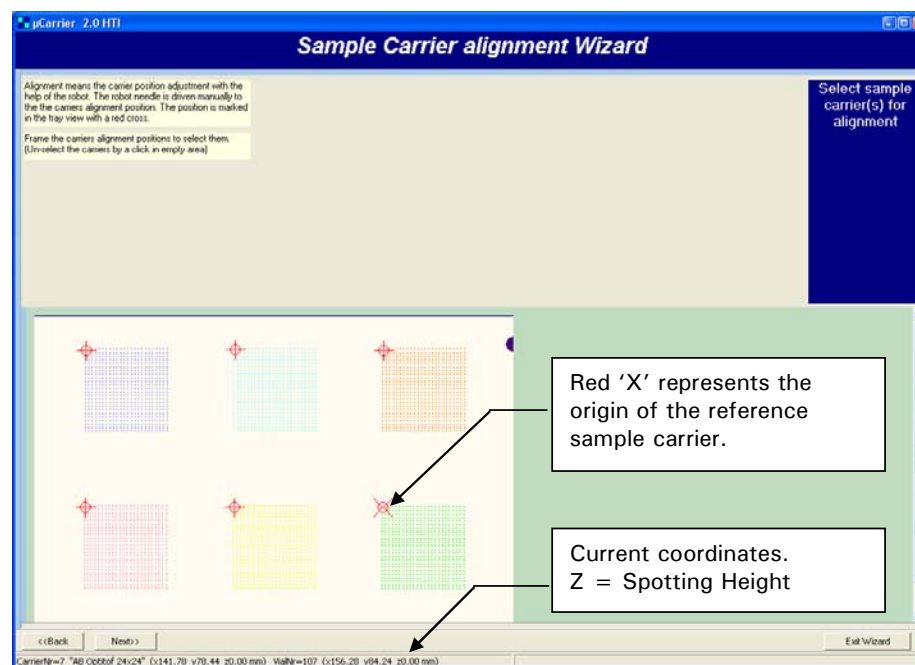

FIGURE 2-14 Introduction Screen of the Sample Carrier Alignment Wizard
- a) Open the *Sample Carrier Alignment Wizard* by selecting **Sample carrier alignment** from the **Tools** menu. The introduction window (FIGURE 2-14) presents the origin of reference sample carrier as red diagonal cross.
- b) To select one or more carriers, draw a frame around the origins (the red '+') of all sample carriers while keeping the left mouse button pressed. After the selection the origin of the reference carrier is presented by a red 'X' (FIGURE 2-14).